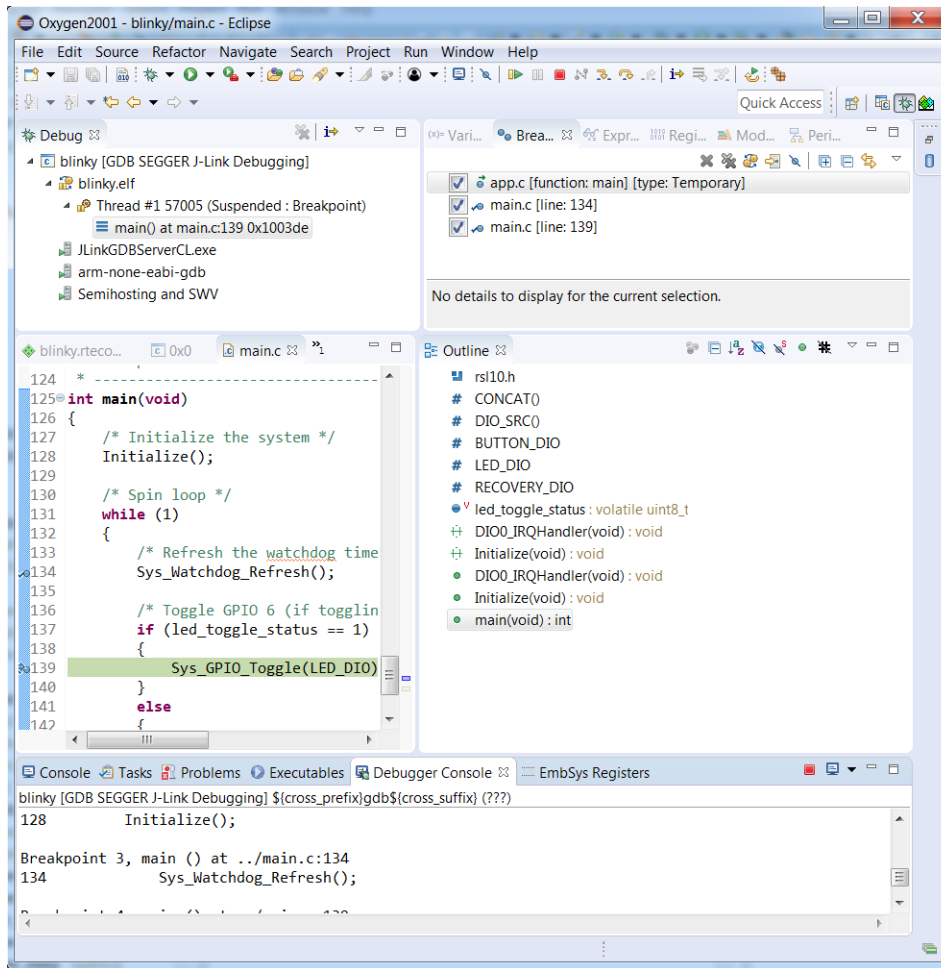

Figure 12. Debug Perspective
- The Debug perspective opens and the application runs up to the first breakpoint in *main*, as shown in Figure 12 on page 15. You can press F6 multiple times to step through the code and observe that the LED changes its state when the application executes the function `Sys_GPIO_Toggle(LED_DIO)`.